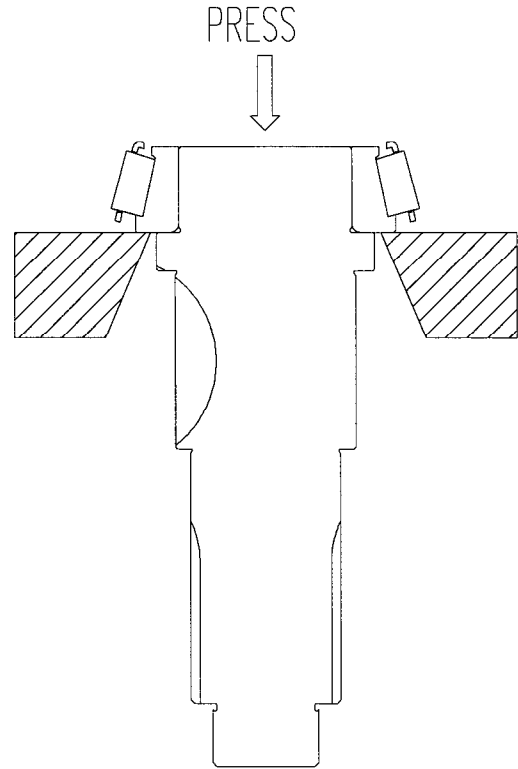

Fig. 32
3. To remove the rear bearing cone, support the bearing cone with a separator and press the shaft through the cone. See Fig. 32.